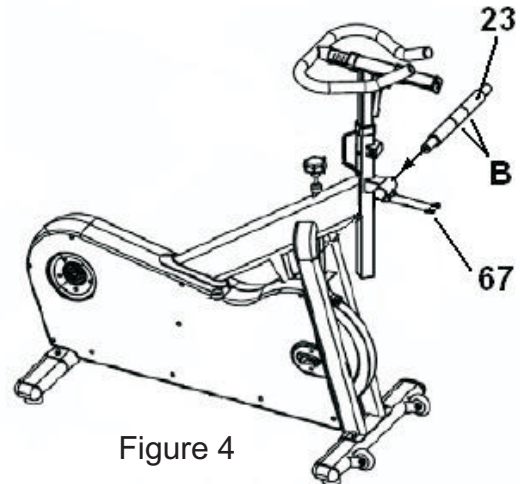

Figure 4
Insert the Lower Swing Arm spindle (23) through the horizontal support on the main post (fig. 4) centering it between the 2 lines (B) marked on the spindle then tighten the screw (67)